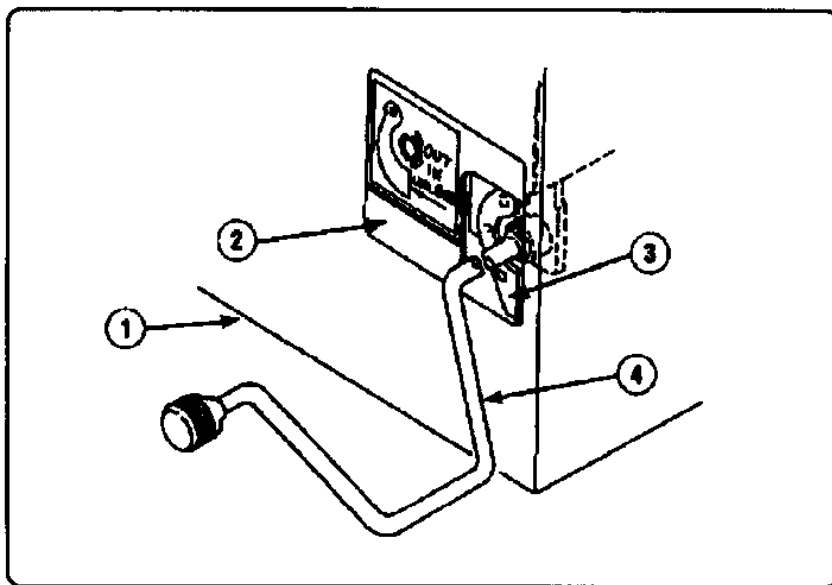

Fig. 4 - Method of Racking Circuit Breaker
Engage racking crank (4, Fig. 4) and push racking unlocking lever (3) to left, then rotate racking crank counterclockwise only until resistance to motion is felt (DO NOT FORCE). If closing springs were left in the "CHARGED" condition, they will automatically discharge.
To rack circuit breaker to "TEST" position, push racking unlocking lever (3, Fig. 4) to left, rotate racking crank approximately 1/4 turn
When racking circuit breaker to "CONNECTED" position, close compartment door (1, Fig. 4) and insert racking crank (4, Fig. 4) through sliding panel (2, Fig. 4).
Push unlocking lever (3, Fig. 4) to left and turn racking crank (4, Fig. 4) approximately 1/4 turn clockwise, then release unlocking lever. Continue cranking until racking mechanism automatically stops at "CONNECTED" position.
CIRCUIT BREAKER REMOVAL (See Fig. 4)